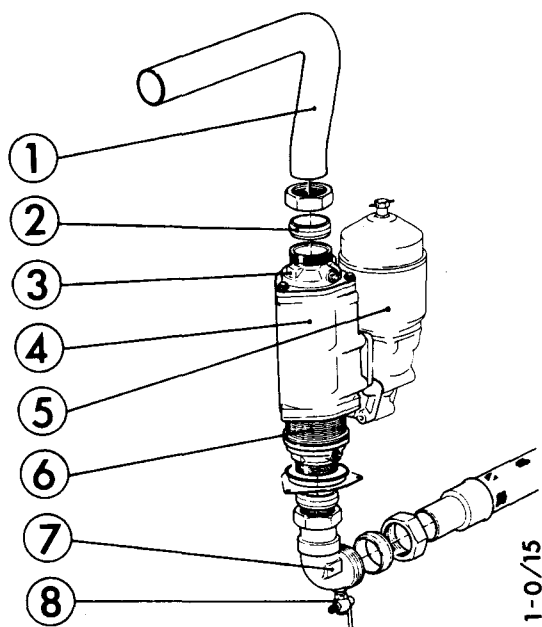

Fig. 3
The water connections consist of pipes with clamp cone joints. When tightening these joints remember to hold the oil cooler assembly firmly so that it does not rotate at the same time. Thus, bearing this in mind the ends of the oil cooler have been shaped in the form of a wrench grip (pos. 3 in fig. 3).